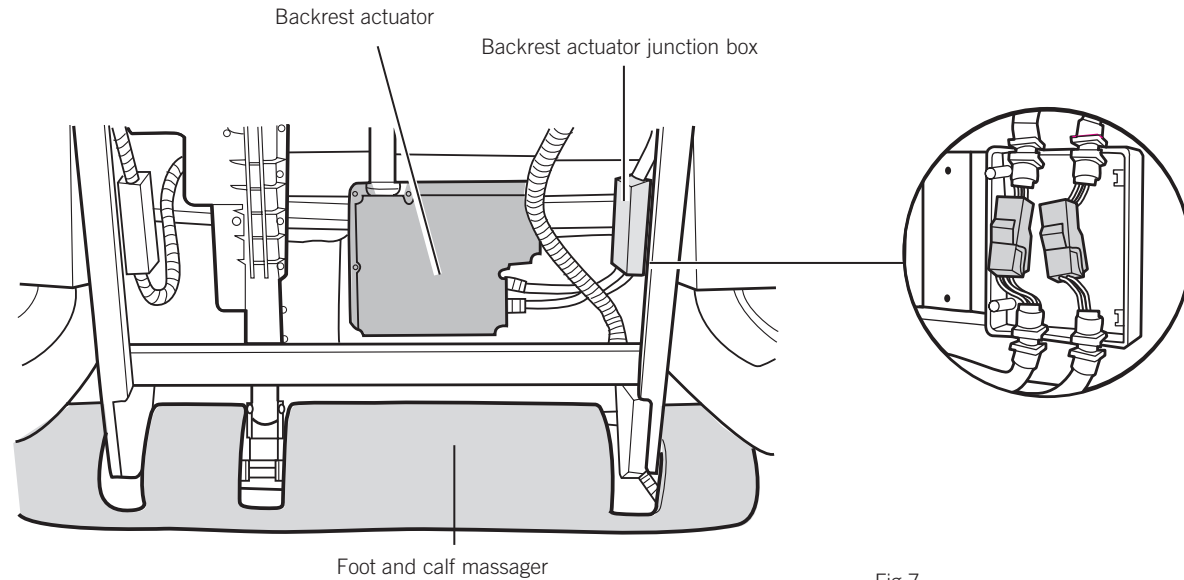

Fig.7
1. Locate the backrest actuator connector junction box, use a Phillips-head screwdriver to remove the junction box cover screws, then remove the cover (Fig.7).
2. Disconnect both sets of connectors (Fig.7).